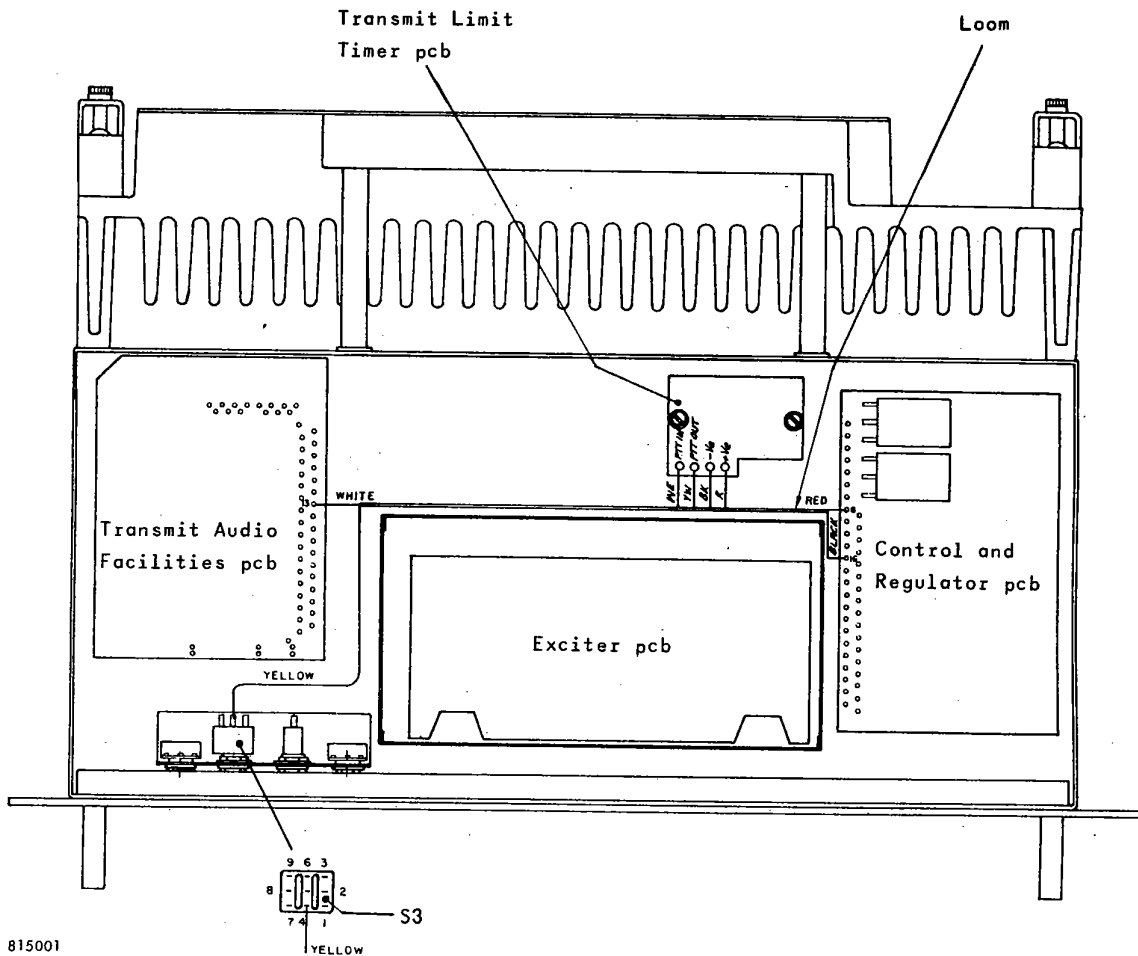

Figure 8.4. Tx Limit Timer Interconnecting Diagram
- ii. Fit Timer pc board as shown in Figure 8.4.